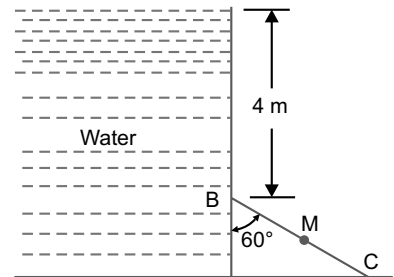

Fig. 16
- Q. 74.** In the situation shown in the Fig. 16, the length BC is 3 m and M is the mid-point of BC . The hydrostatic force on BC measured per unit width (width being perpendicular to the plane of the paper) with 'g' being the acceleration due to gravity, will be